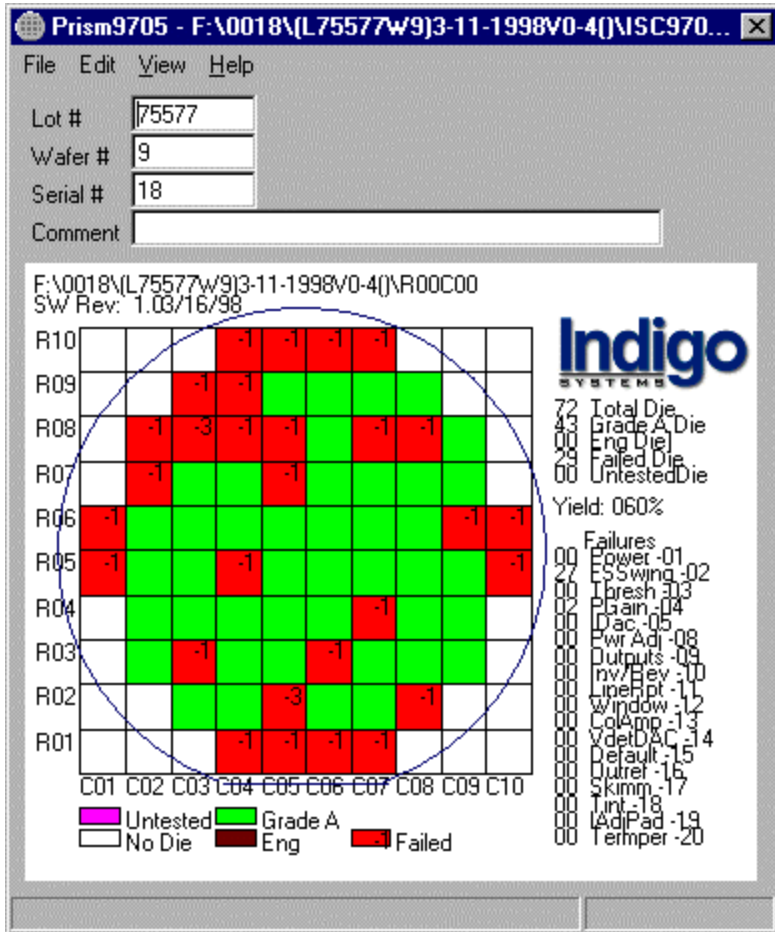

Figure 13 – Test report wafer map for the Standard 320 (ISC9705)
Each die of the standard 320 is rigorously exercised during wafer test. A total of 72 die are contained within each wafer. A color-coded wafer map is produced at the conclusion of testing. All data taken for a wafer map is provided to the customer on a compact disc (CD). Also on the CD is special viewing software, which allows the user to view and print the processed data. Figure 13 is the test report wafer map for wafer 0018. The green squares are die which have no row or column outages and less than 8 defective pixels. Note for this wafer 60% of the die passed. The red colored squares are die which do not